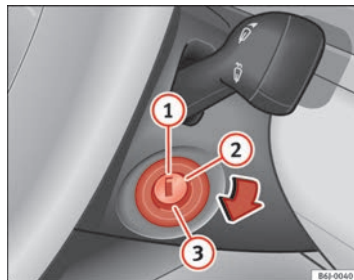

Fig. 98 Ignition key positions
In this position ⇒ fig. 98 the ignition and the engine are OFF and the steering may get locked.
- Turn the ignition key to position ⇒ fig. 98 ②. The indicator lamp  will light for engine pre-heating.
- When the warning lamp turns off, turn the key to position ③ to start the engine. Do not press the accelerator.
- Turn the ignition key to position ⇒ fig. 98 ①.